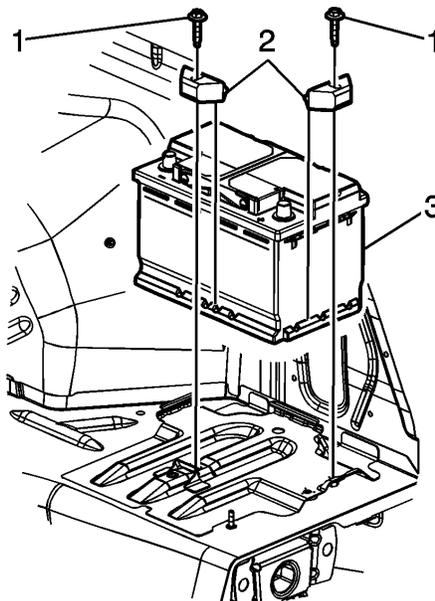

Fig. 6 Battery removal
11. Remove battery hold down retainer bolts (1) and battery hold down retainers (2), **Fig. 6**.
2. Install battery hold down retainers (2) and bolts (1), **Fig. 6**. **Torque** bolts to 13 ft. lbs.
15. Remove battery hold down retainer bolts (1) and battery hold down retainers (2), **Fig. 6**.